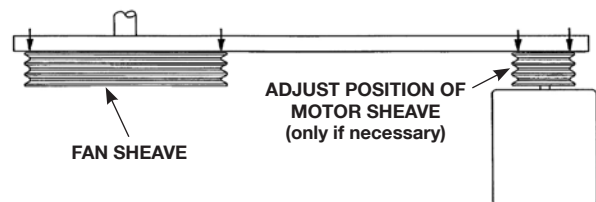

Figure 26 – Sheave alignment check
9. As a final check, lay a straight edge from sheave to sheave. There should be four point contact. (See Figure 26.) Adjust the position of the motor sheave as necessary.